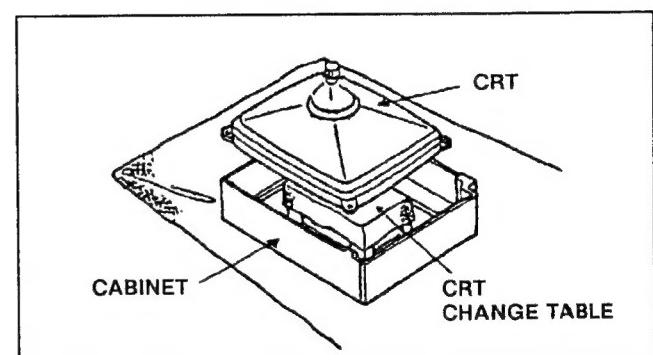

Fig. 5
- 4. After four screws have been removed, put the cabinet slowly on cloth (At this time, be carefully so as not to damage the front surface of the cabinet) shown in Fig.5.